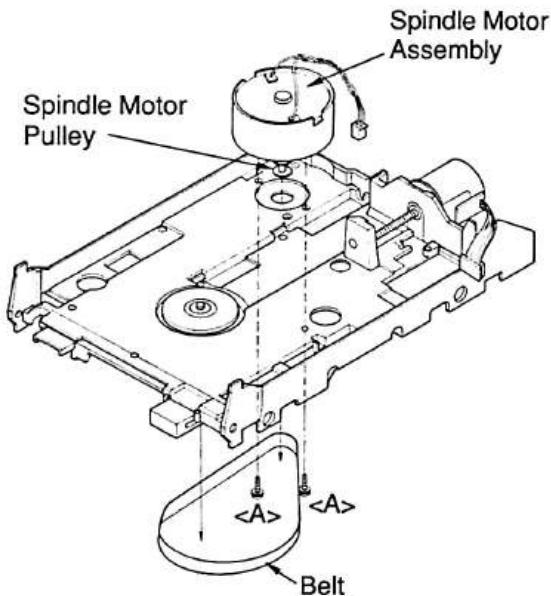

Figure 4
- 1) Remove the belt from the spindle motor pulley as shown in Figure 4.
- 2) Remove two screws <A> from the spindle motor board, then remove the spindle motor assembly as shown in Figure 4.